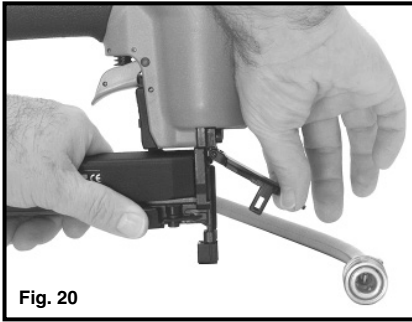

Fig. 20
3. Depress the quick release latch and open the fastener guide plate (see Fig. 20).